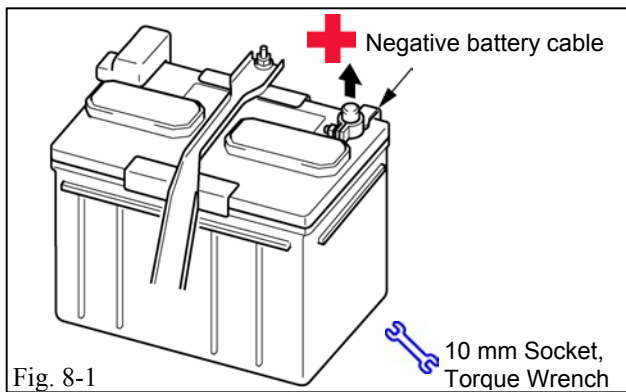

Fig. 8-1
- (a) Reconnected the vehicle's negative battery cable at original factory position. (Fig. 8-1)
- ⚠ (1) Tighten the nut to 36 lbf in. (4.1 N-m)
- ⊕ (2) Do not touch the positive terminal with any tool when replacing the cable.